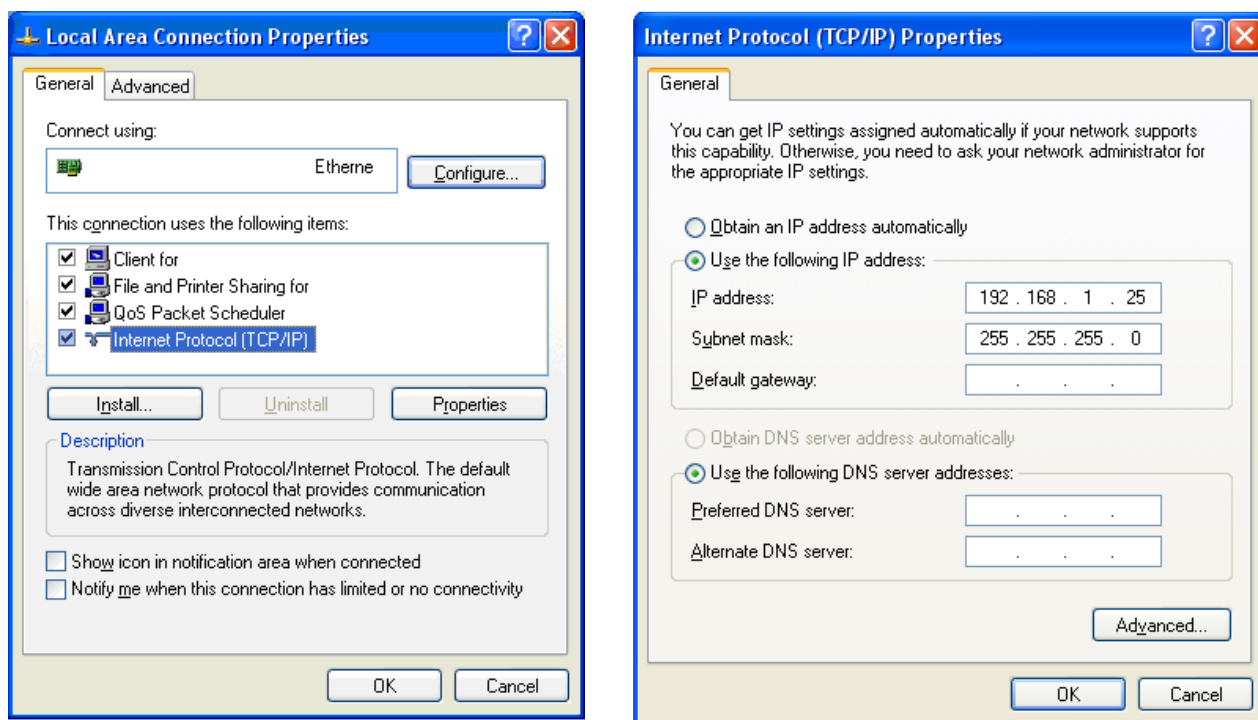

Figure 6-42: LAN Configuration Screens
- Go to the PC's Network Connections to access the LAN configuration screens as shown in Figure 6-42.